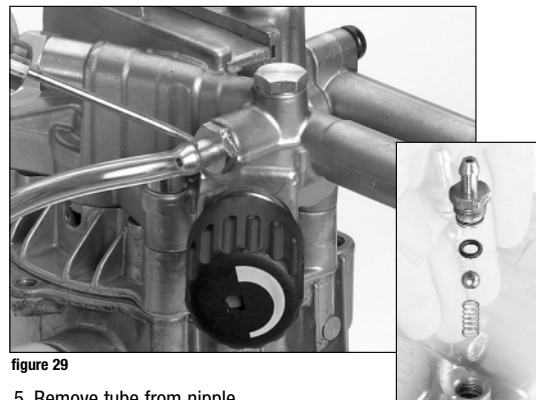

figure 29
- Remove detergent non-return check valve. (figure 29)